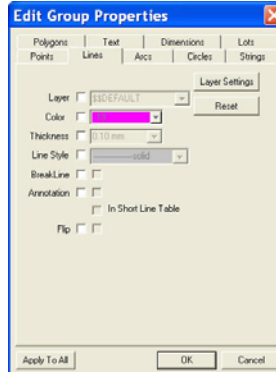

Figure 6-20. Edit Group Properties
- Click **Edit ► Edit Properties** or press **Alt+Enter**. The *Edit Group Properties* dialog box appears (Figure 6-20).